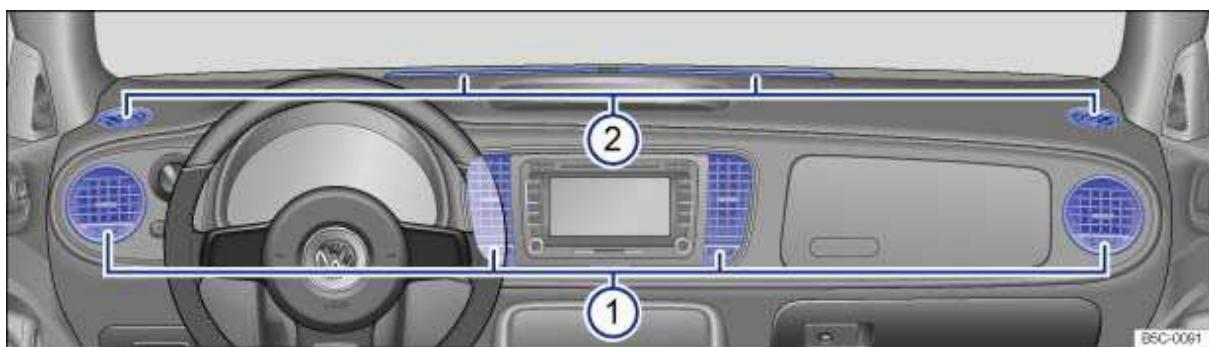

Fig. 110 In the instrument panel: Air vents.
To help ensure sufficient heating, cooling and ventilation in the passenger compartment, never close the air vents completely ⇒ **fig. 110 (1)**.